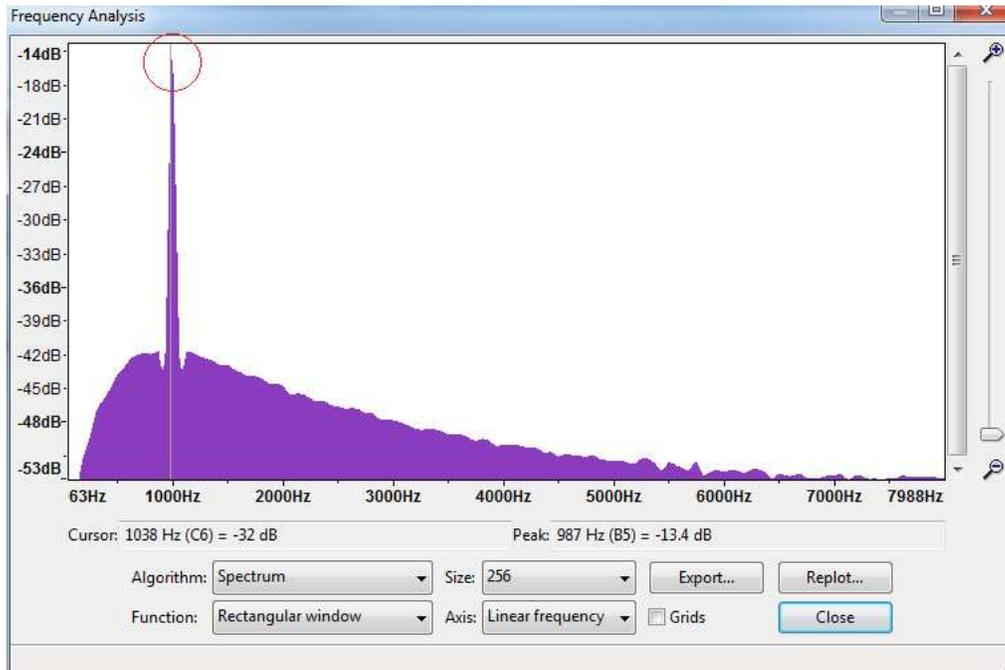

Figure 25. Spectrum Showing a Peak of Approximately 1KHz Signal
21. The audio spectrum can be plotted in Audacity to better analyze the signal Analyze → Plot Spectrum. As seen in Figure 25, the audio spectrum indicates a peak of a signal of approximately 1KHz.